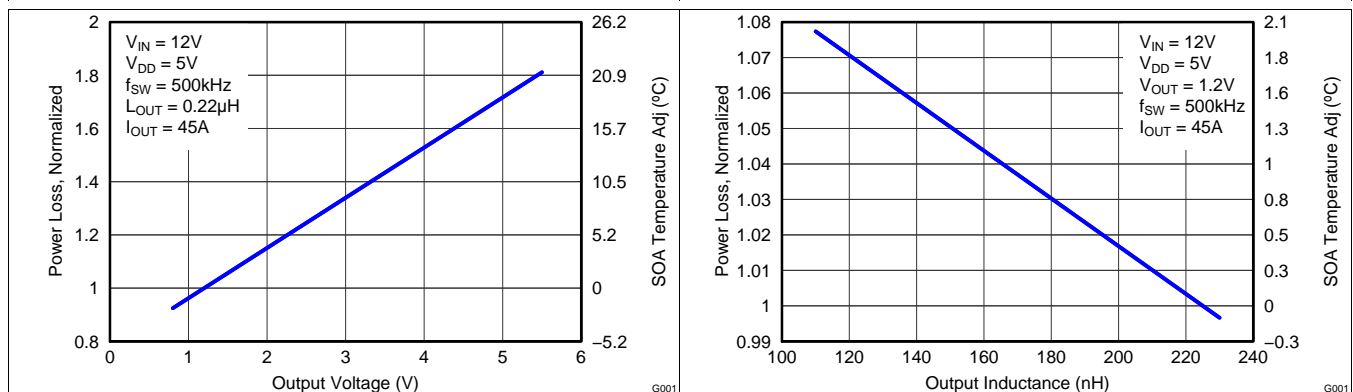

Figure 8. Normalized Power Loss vs Output Voltage
- Normalized Power Loss for output voltage ≈ 1.06 (Figure 8)
- SOA adjustment for output voltage $\approx 1.5^\circ\text{C}$ (Figure 8)